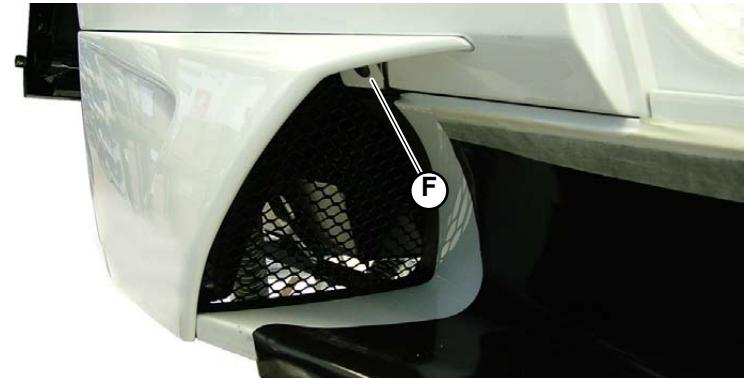

Fig.9
7. Tighten the screw (F-Fig.9) to secure the rear part of the side member onto the side member.